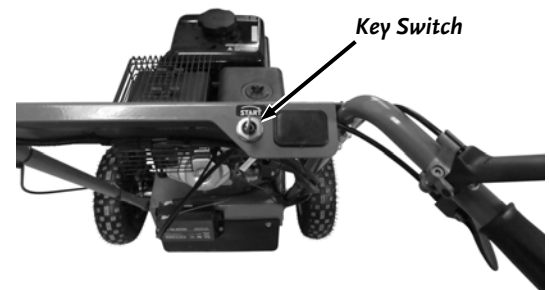

Figure 27
3. Hold down the Operator Presence Lever and turn the Key Switch fully to the “Start” position until the engine starts (**Figure 27**). The Key will move back to the center position when released.